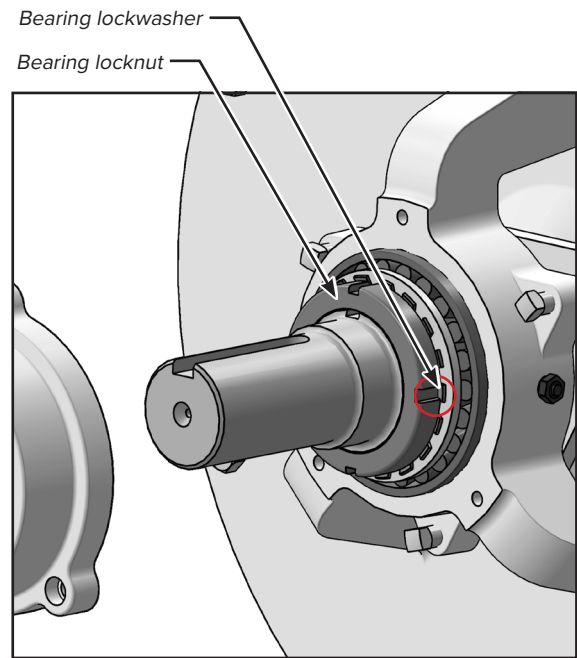

FIGURE 11
6. Straighten the bearing lock washer tab engaged with bearing lock nut as shown (figure 11).
10. Straighten the bearing lock washer tab engaged with bearing lock nut as shown (figure 11).